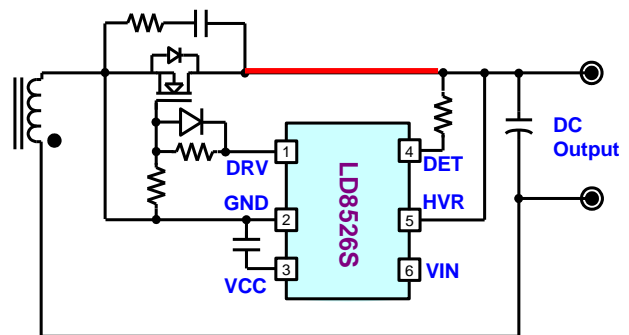

Fig. 16
5. To let MOS be turned OFF in time, keep 5nH~20nH inductance of PCB trace as shown in Fig.16 & Fig. 17 in red lines. The suggested trace configurations are listed below: